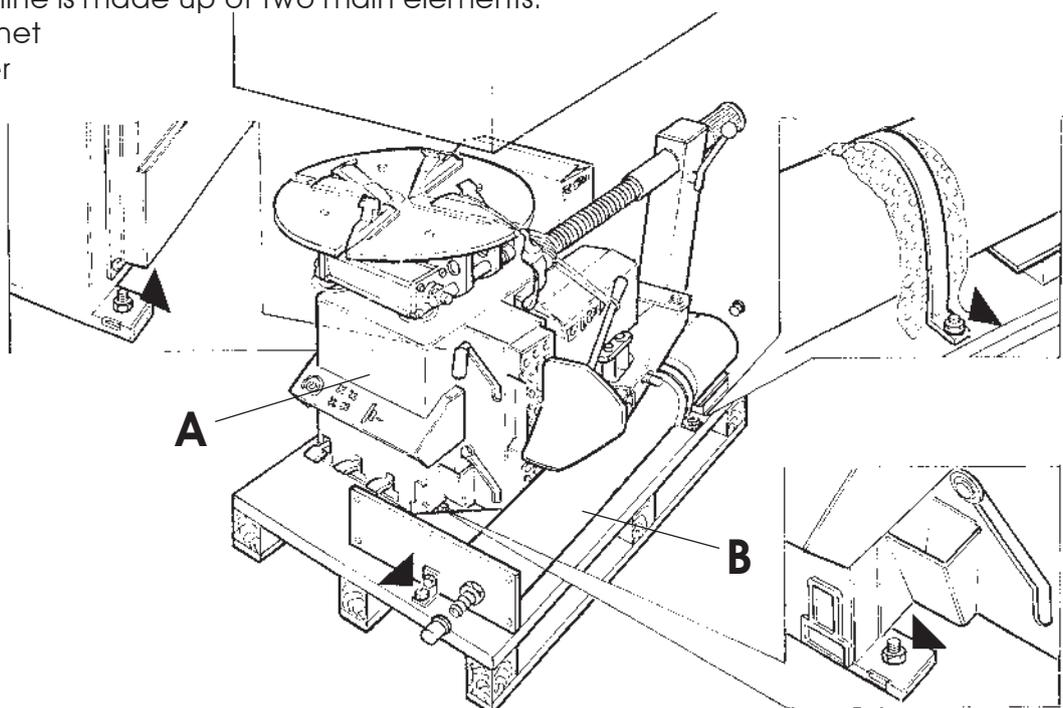

Fig. 1
- ❑ Remove the packing from the top section of the machine and check to see if it has been damaged during transport. Find the points where the machine is fixed to the pallet (Fig.1).